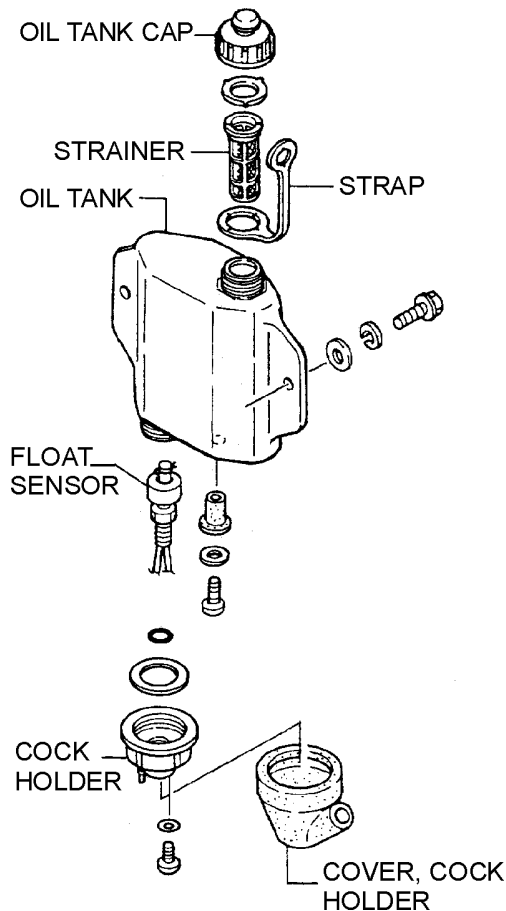

Figure 20. Oil Tank
- When cleaning the oil tank (Figure 20) perform the following procedure: